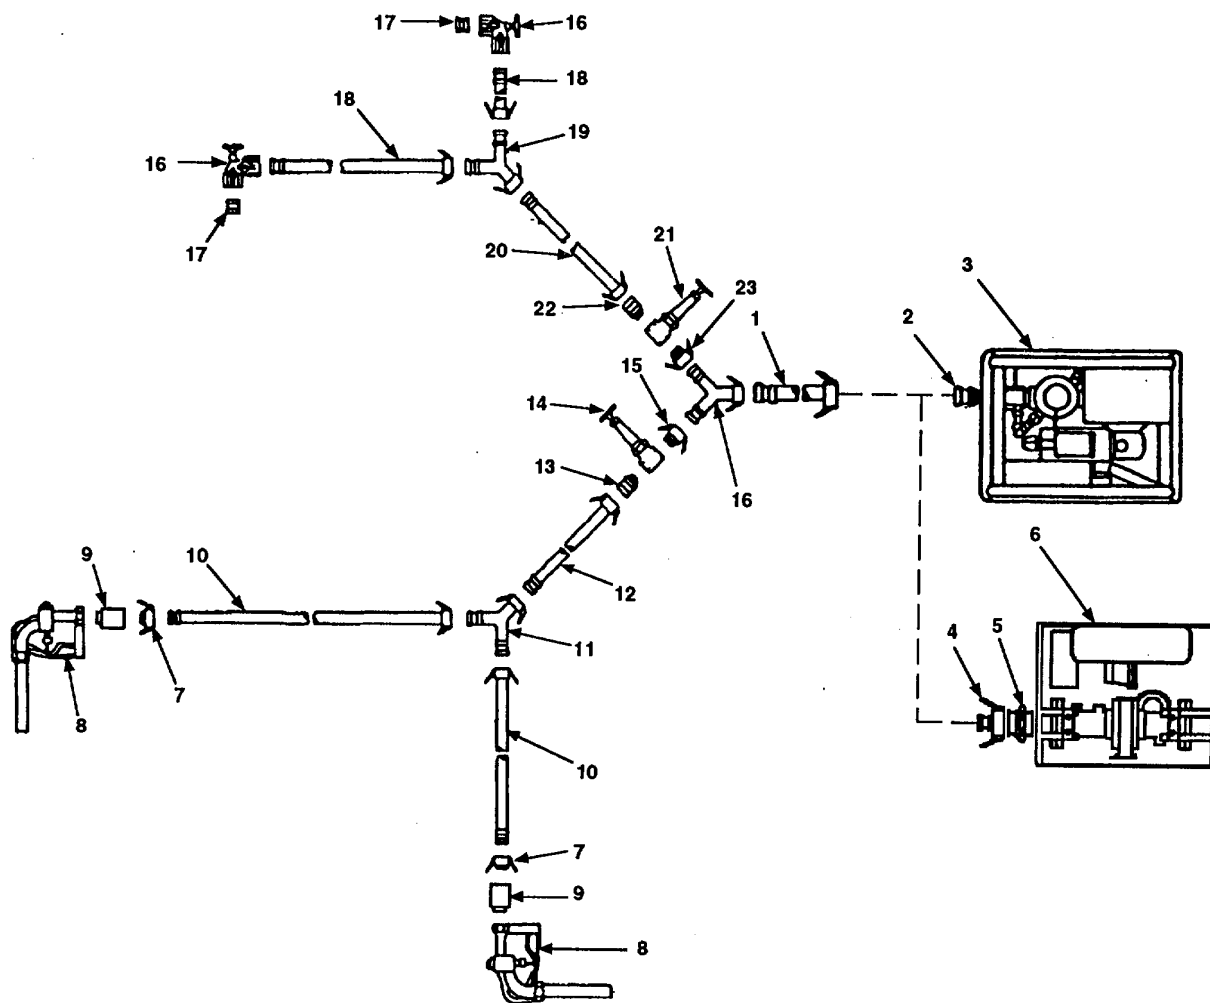

Figure 2-77. Disassembly of Distribution Point.
- i. Push cam arms on discharge hose assembly (Figure 2-77, 1) forward to open. Remove hose assembly (1) attached to male quick-disconnect coupling half (2) on hypochlorination unit (3) outlet port.
- j. Unscrew and remove male quick-disconnect coupling half (2) from hypochlorination unit (3) outlet port.
- k. Push cam arms on hose assembly (1) forward to open. Remove hose assembly (1) attached to reducer (4).
- r. Push cam arms of two reducers (Figure 2-77, 7) forward to open. Remove two nozzles (8) with attached hose swivels (9) and reducers (7) from ends of hose assemblies (10).
- s. Unscrew and remove two reducers (7) from ends of hose swivels (9).
- t. Unscrew and remove two hose swivels (9) from ends of nozzles (8).
- u. Push cam arms on hose assemblies (10) forward to open. Remove hose assemblies (10) from end of Y-connection (11).
- v. Push cam arms on Y-connection (11) forward to open. Remove Y-connection (11) from end of hose assembly (12).
- w. Push cam arms on discharge hose (12) forward to open. Remove hose from male quick-disconnect coupling half (13) attached to 2 inch gate valve (14).
- x. Push cam arms on female quick-disconnect coupling half (15) forward to open. Remove 2 inch gate valve (14) with attached male quick-disconnect coupling half (13) and female quick-disconnect coupling half (15) from end of Y-connection (16).
- y. Remove male quick-disconnect (13) and female quick-disconnect (15) coupling halves from ends of 2 inch gate valve (14).
- z. Push both sets of cam arms on elbow valves (16) forward to open. Remove two dust plugs (17) from ends of elbow valves (16).
- aa. Remove elbow valves (16) from ends of two hose assemblies (18).
- ab. Repeat steps u through y to disconnect hose assemblies (18), Y-connection (19), hose assembly (20), 2 inch gate valve (21), male quick-disconnect (22) and female quick-disconnect (23) coupling halves.